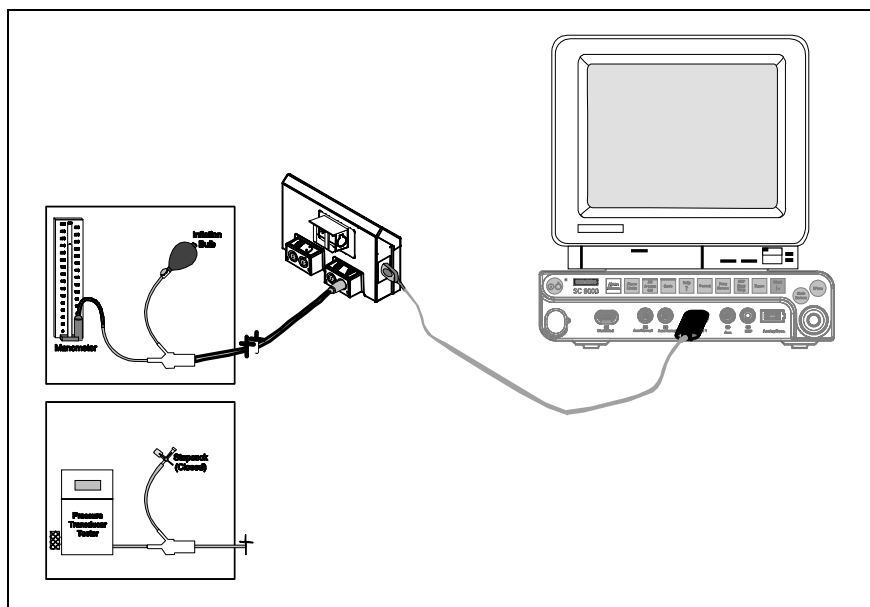

Figure 4-2 IBP Functional Verification Test Setup for HemoMed Pod
Refer to Figure 4-2 for test setup. Invasive blood pressure and cardiac output functions of HEMO2/4 PODs are incorporated in the HemoMed Pod. A single cable connects the Pod to the HemoMed 1 input on the front of the SC 8000. Pressure labels for HemoMed Pod channels are set in the monitor.
- 2) Plug cable from HemoMed Pod output into HemoMed 1 connector on front of Monitor. See Figure 4-2.